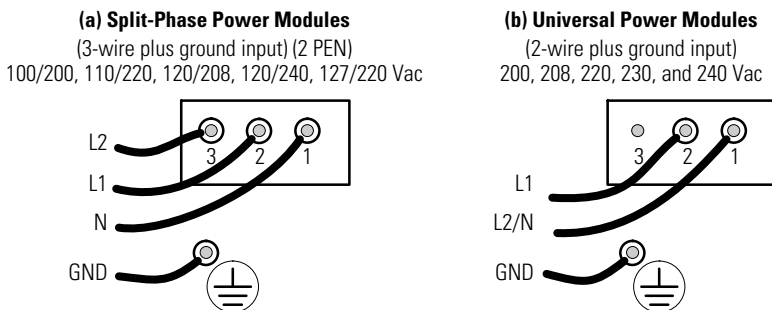

Figure 17. UPS Input Wiring
9. Wire the UPS for the proper input voltage as shown in Figure 17.
Confirm that the UPS is wired for the proper input voltage as shown in Figure 17, and that the proper power modules (either split-phase or universal) are installed to produce the desired output voltage. Do not mix the two types of power modules in the same UPS cabinet.